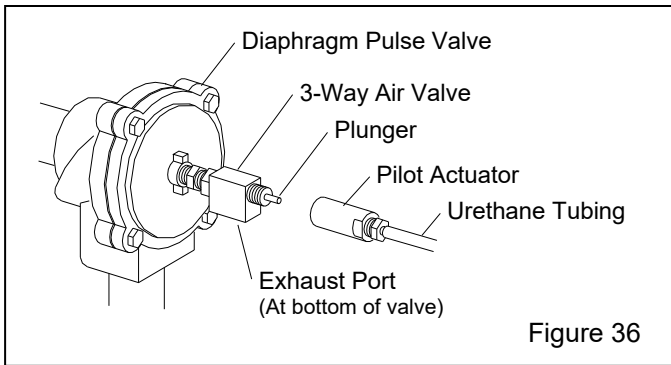

Figure 36
**8.17.5** Check the diaphragm pulse valve and actuator assembly. Refer to Figure 36.